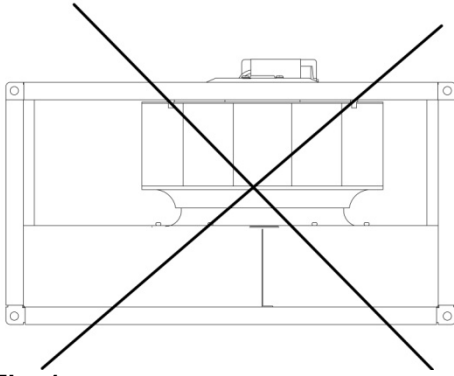
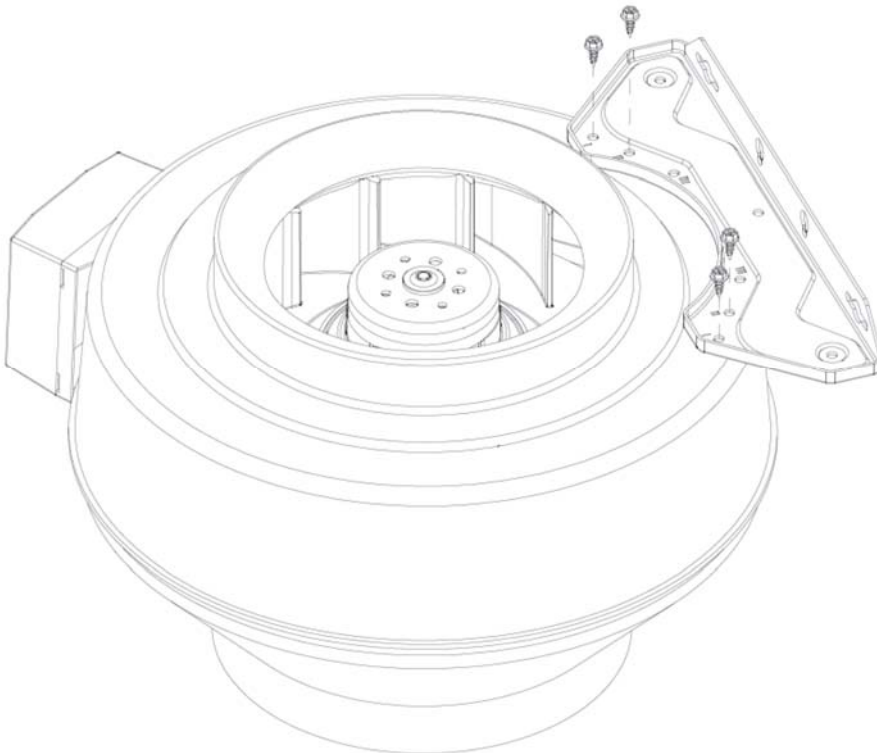

Fig. 1
Fig 3
Refer to Safety information above. Installation, electrical connection and commissioning are only to be carried out by authorised personnel and in accordance with requirements and demands. Electrical connections are made according to the wiring diagram in the terminal box, markings on terminal blocks or on cable. All 3 phase fans are delivered from factory in 400V 3~ connection. Seal any empty cable glands with dummy plugs. The K-fan must be installed with the connection box at the top of the unit ± 90 degrees. If permanent installation is carried out using cables with diameter 12-14 mm, the entrance bush must be replaced (applies to type K, KV, RVF and KVK 125/160). To preserve IP44 the RS fans must not be mounted with the connection box/motor plate upwards (**Fig.1**). Fans with thermal contacts with external leads (TK) must always be connected to external motor protection. Assemble the fan in the direction of airflow (see arrow on unit). The fan must be installed to ensure that any vibration is not transmitted via the duct system or frame of the building. (Suitable accessories such as fast clamps and diffusers are available). Make sure the assembly of the fan is firmly fixed and stable (**Fig 3**). The fan can be mounted in any direction unless stated otherwise. The fans must be installed to ensure that service and maintenance can be performed easily and safely. Disturbing noise can be reduced by installing silencers (available as an accessory).